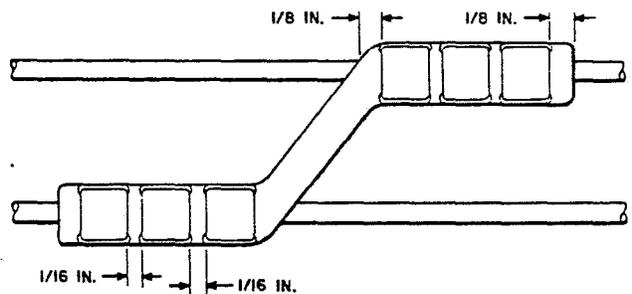

Fig. 4—Dead-End Sleeve Pressed
- (6) The 109 Steel Dead-End Sleeve is applied with the 51-JE Nicopress Tool and requires 3 presses on each end of the sleeve in the J groove of the tool. Make the first press on the inside 1/8 inch in from the bend of the offset. Space the other 2 presses so 1/8 inch is left unpressed at the end (Fig. 4).